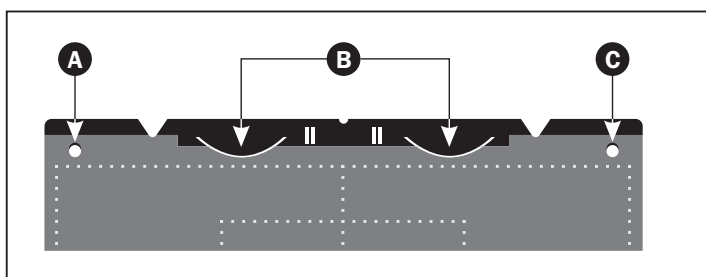

Figure 7: Reflective holder, top
- For the reflective holder, note the four metal pegs (the top two are shown as **A** and **C** in Figure 7 below); make sure that the clear plastic sheet is pressed all the way down over all four pegs. Note also the two curved tabs at the top of the holder (**B** in the figure below); the clear sheet must slip under each of these tabs, as shown.